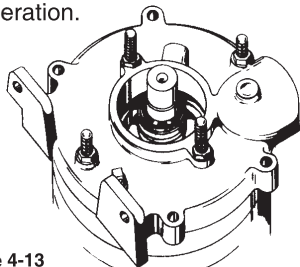

Figure 4-13
22. The seal rotating element can now be installed.(refer to figure 4-13) One and two stage pumps position both seals (#12) by a shoulder on the shaft. Three and four stage pumps locate the rear seal (#13) by means of a drive collar (#14). The seal rotating element, when lubricated, must be allowed to move freely on the shaft. This will enable the seal to seek a hydraulic balance upon operation.